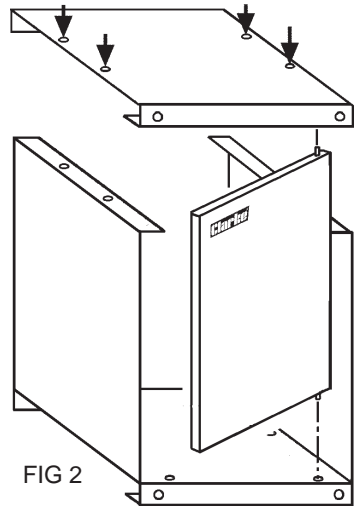

FIG 2
4. Locate the door lower hinge pin into the hole in the lower panel, then place the top panel on top of the two side panels as shown in Fig 2, locating the door top hinge pin in the hole in the upper panel as you do so.
Secure the panel to the sides with screws, nuts & washers in the holes shown arrowed in Fig 2.